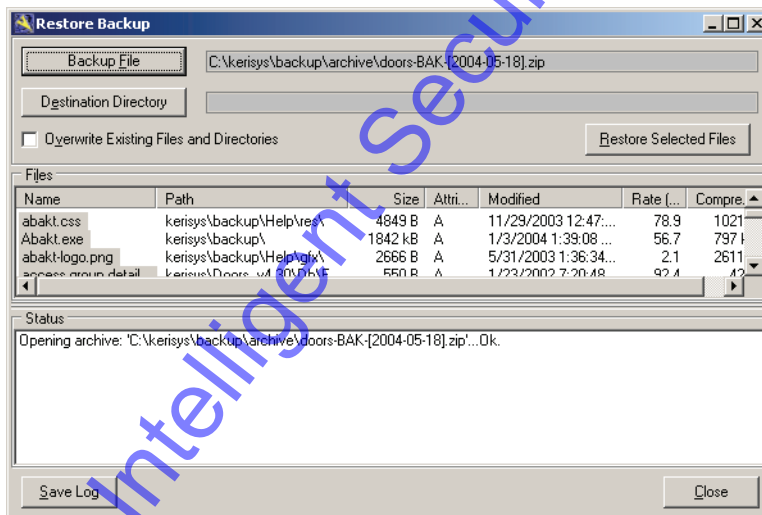

Figure 5-63: Restore Backup Window with Backup Files Entered
- Click on the **Open** button. The Restore Backup window returns with the backup files entered (see Figure 5-63).